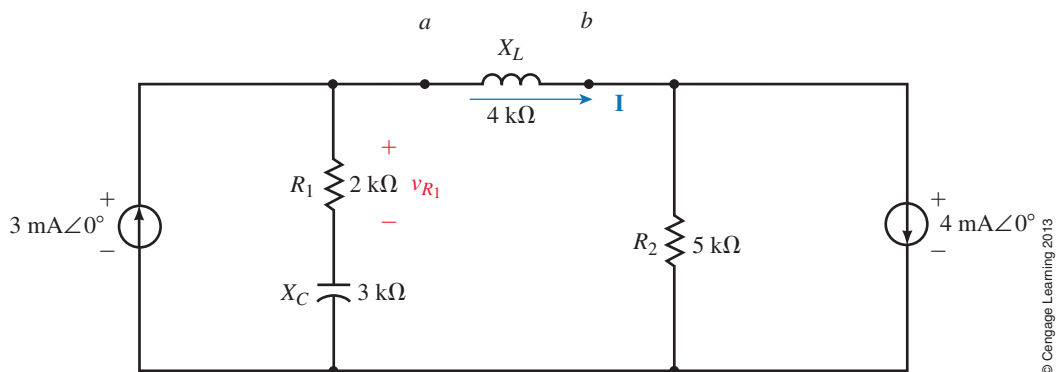

FIGURE 20–73
11. Refer to the circuit of Figure 20–74.